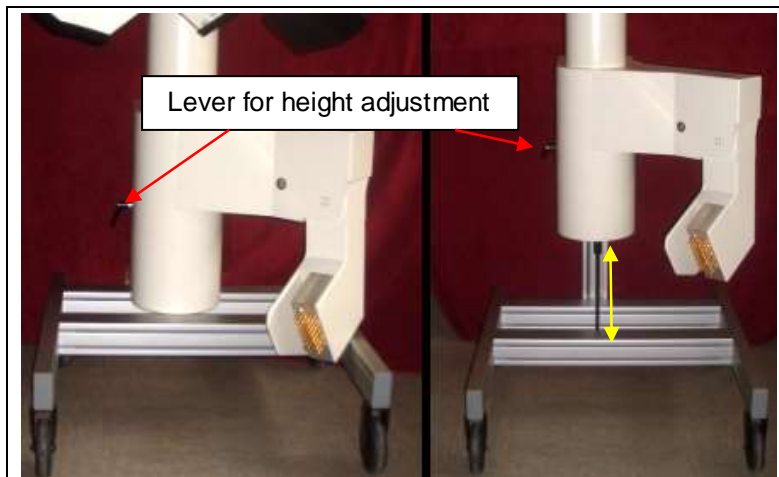

Figure 11: To adjust the height of the AG501 loosen the lever and move the housing up or down.
- Move up the housing of the AG501, so the arm can swing freely (Figure 11).